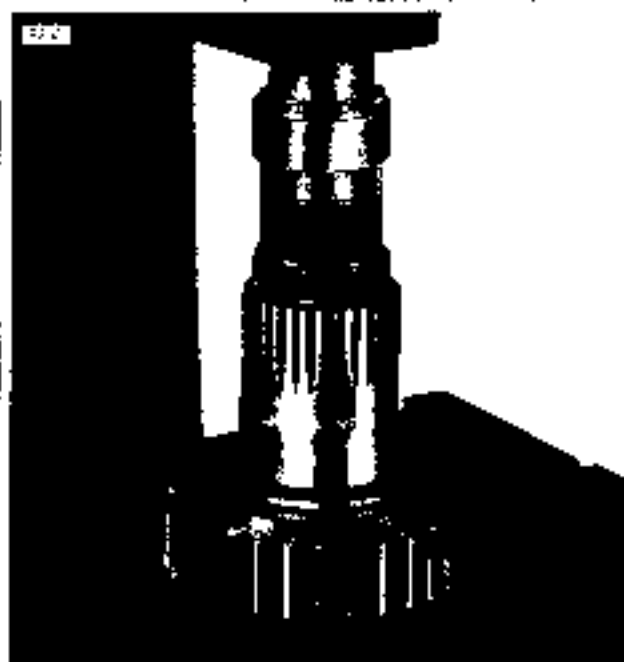

Figure 7-39. Installing Clutch Side Needle Bearing in Main Drive Gear
5. See Figure 7-39. Inspect the shifter pawl lever assembly (1) for wear. If pawl ends are damaged, replace assembly.
9. See Figure 7-39. Install clutch side needle bearing (4) on arbor press and the 0.015 in. stop end of tool and screw. Press until tool is flush.